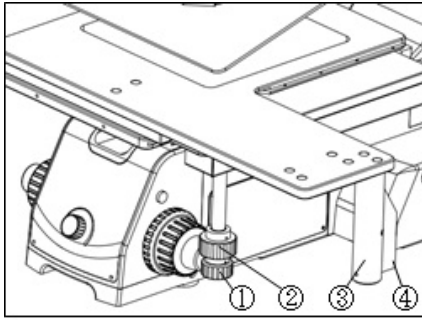

Fig. 17
1. Rotate the X-axis knob ① and Y-axis knob ② below right of the stage to move the stage. (Fig.17)
2. By fully depressing the clutch ④ of the grip ③, the X-axis and Y-axis knobs are bypassed and the stage can be freely while continuing to depress the grip clutch.(Fig. 17)